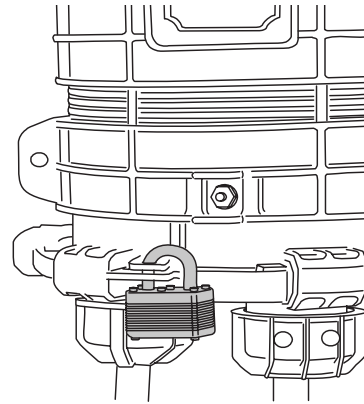

Figure 18
1. A lock (not supplied) can be fitted to restrict closure access (Figure 18).